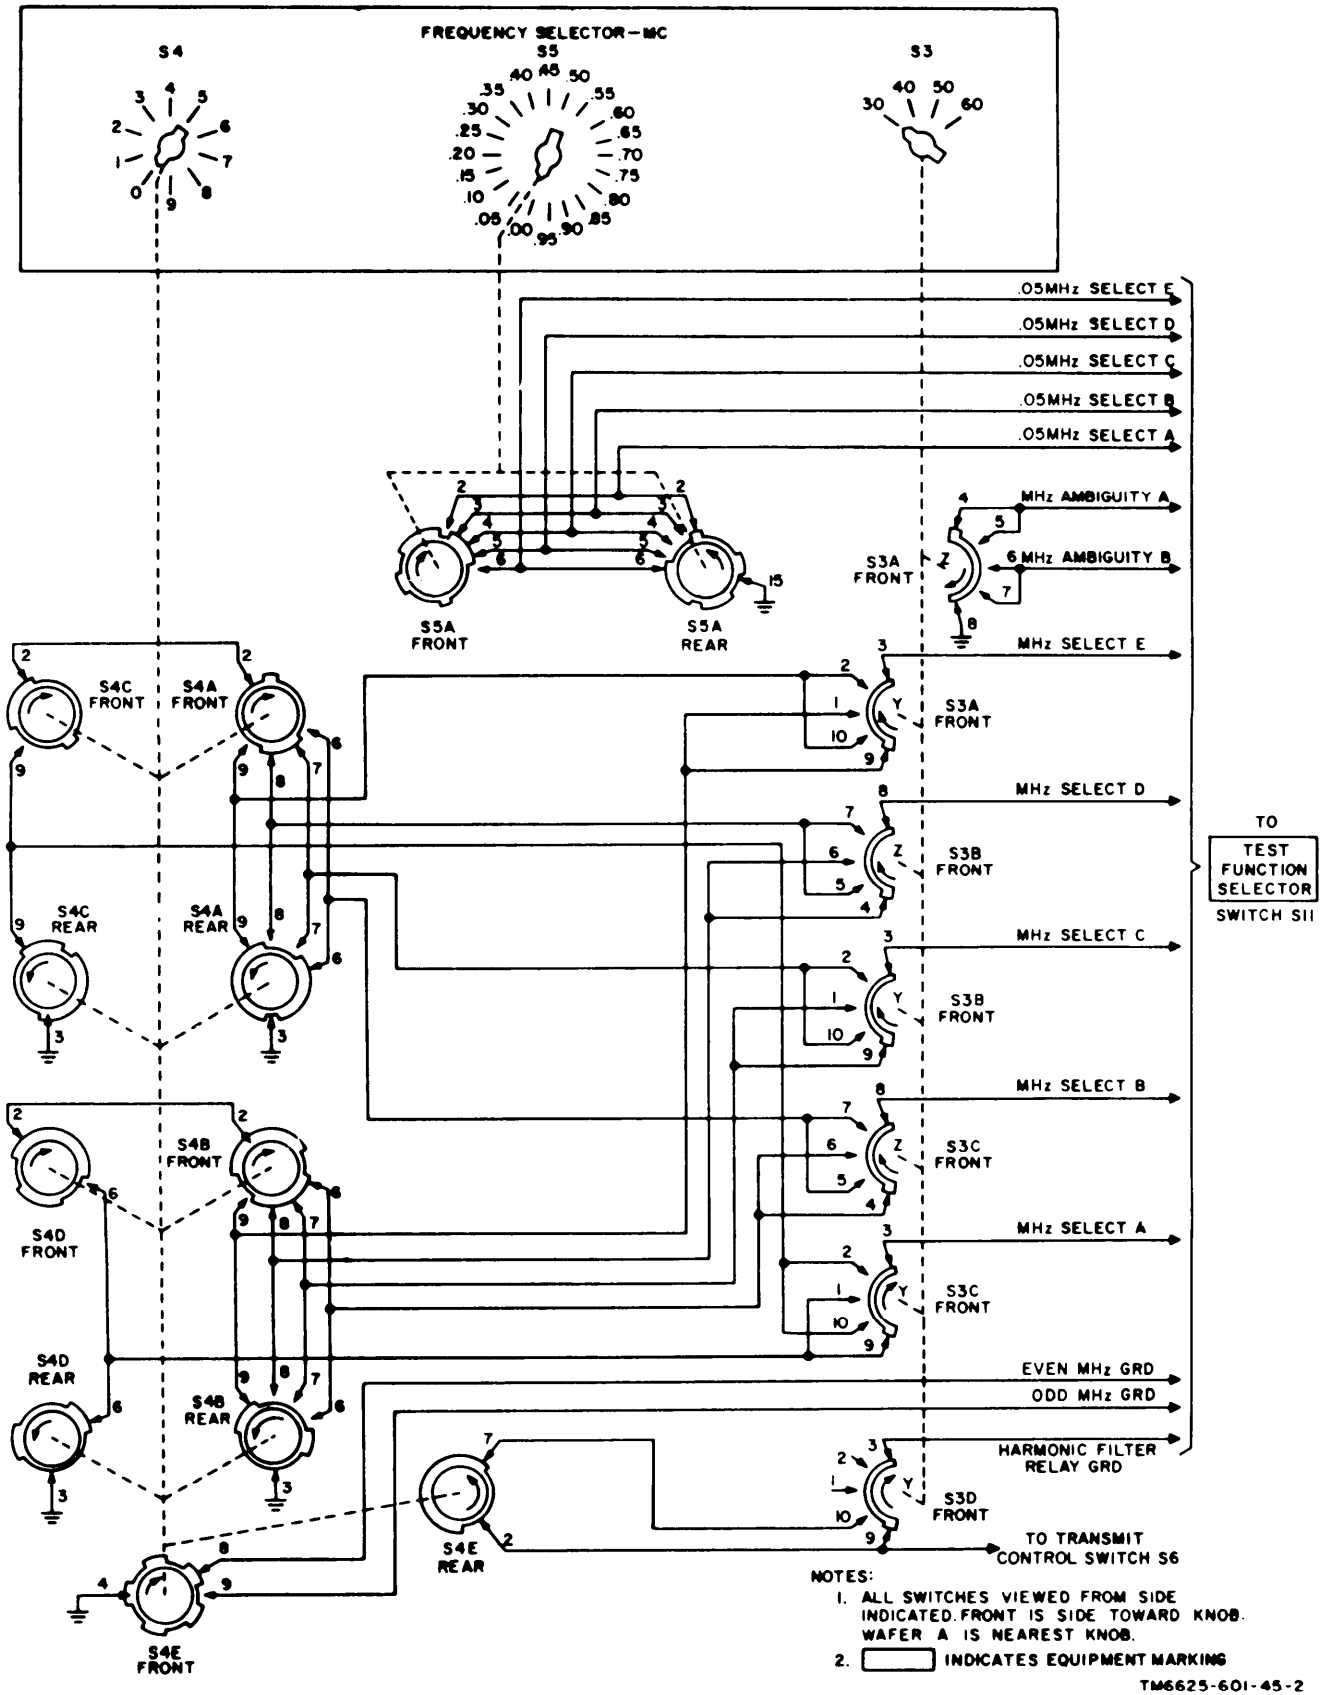
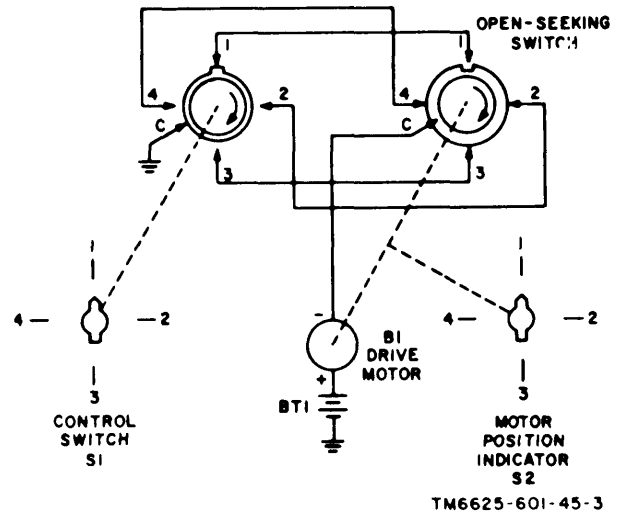

Figure 1-2. Frequency selector circuit, simplified schematic diagram.
Figure 1-3. Simplified four-wire reentrant switch and drive motor circuit.
(fig. 1-2)
*b. Simplified Reentrant System.* Figure 1-3 is a simplified schematic diagram of a simple open-seeking reentrant system. With the switches in the positions shown, ground is applied through contacts C and 1 of switch S1 to contact 1 of switch S2. Because contact 1 of switch S2 is at the open segment of switch S2, the motor circuit is open. Setting switch S1 to 2 applies ground, through contacts C and 2 of switch S1, contact 2 of switch S2, and contact C of switch S2, to motor B1. Motor B1 operates, turning switch S2 clockwise. When the open segment of switch S2 reaches contact 2, the circuit opens and motor B1 stops. The action described above is the same for any position of switch S1; switch S2 always stops motor B1 at the position selected by switch S1. Note that switches S1 and S2 are physically complementary; this is a characteristic of all reentrant systems. The switching arrangement of the test set frequency selector system, shown schematically in figure 1-2, is more complex than the system discussed above. However, the test set switches provide a basic function similar to that of switch S1 shown in the simple switching arrangement of figure 1-3.
e. *Whole-Megahertz Switching.* Figure 1-2 shows the complete TS-1967/ARC-54 frequency selection circuit. FREQUENCY SELECTOR-MC switches S3 and S4 perform the whole-megahertz tuning from 30 to 69 MHz. Switch S4 generates three sets of codes. One code covers the 30- to 39- and the 50- to 59-megahertz frequency range. The second code covers the 40- to 49- and 60- to 69-megahertz frequency range. A third code identifies odd- and even-megahertz frequencies by applying alternate grounds to the odd- and even-megahertz lines. Sections B and D of switch S4 form a five-wire code generator for the 30- and 50-megahertz frequency ranges. A separate five-wire code generator for the 40- and 60-megahertz frequency ranges is formed by sections A and C of switch S4. Setting switch S3 to 30 or 50 connects five lines from switches S4B and S4D to megahertz select lines A through E. Since the codes for frequencies in the 30- and 50-megahertz frequency ranges are identical,